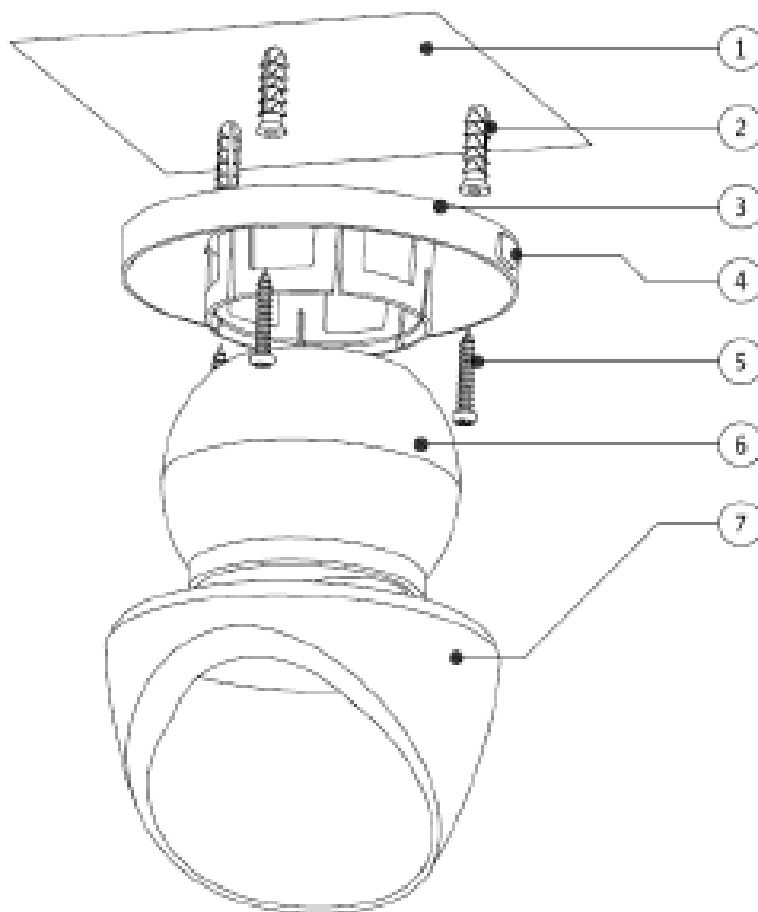

Figure 4-1
Model A: Press ④ shown in Figure 4-1 to make the pedestal open. Press the dome cover location below the outlet exit to separate the pedestal from the enclosure.